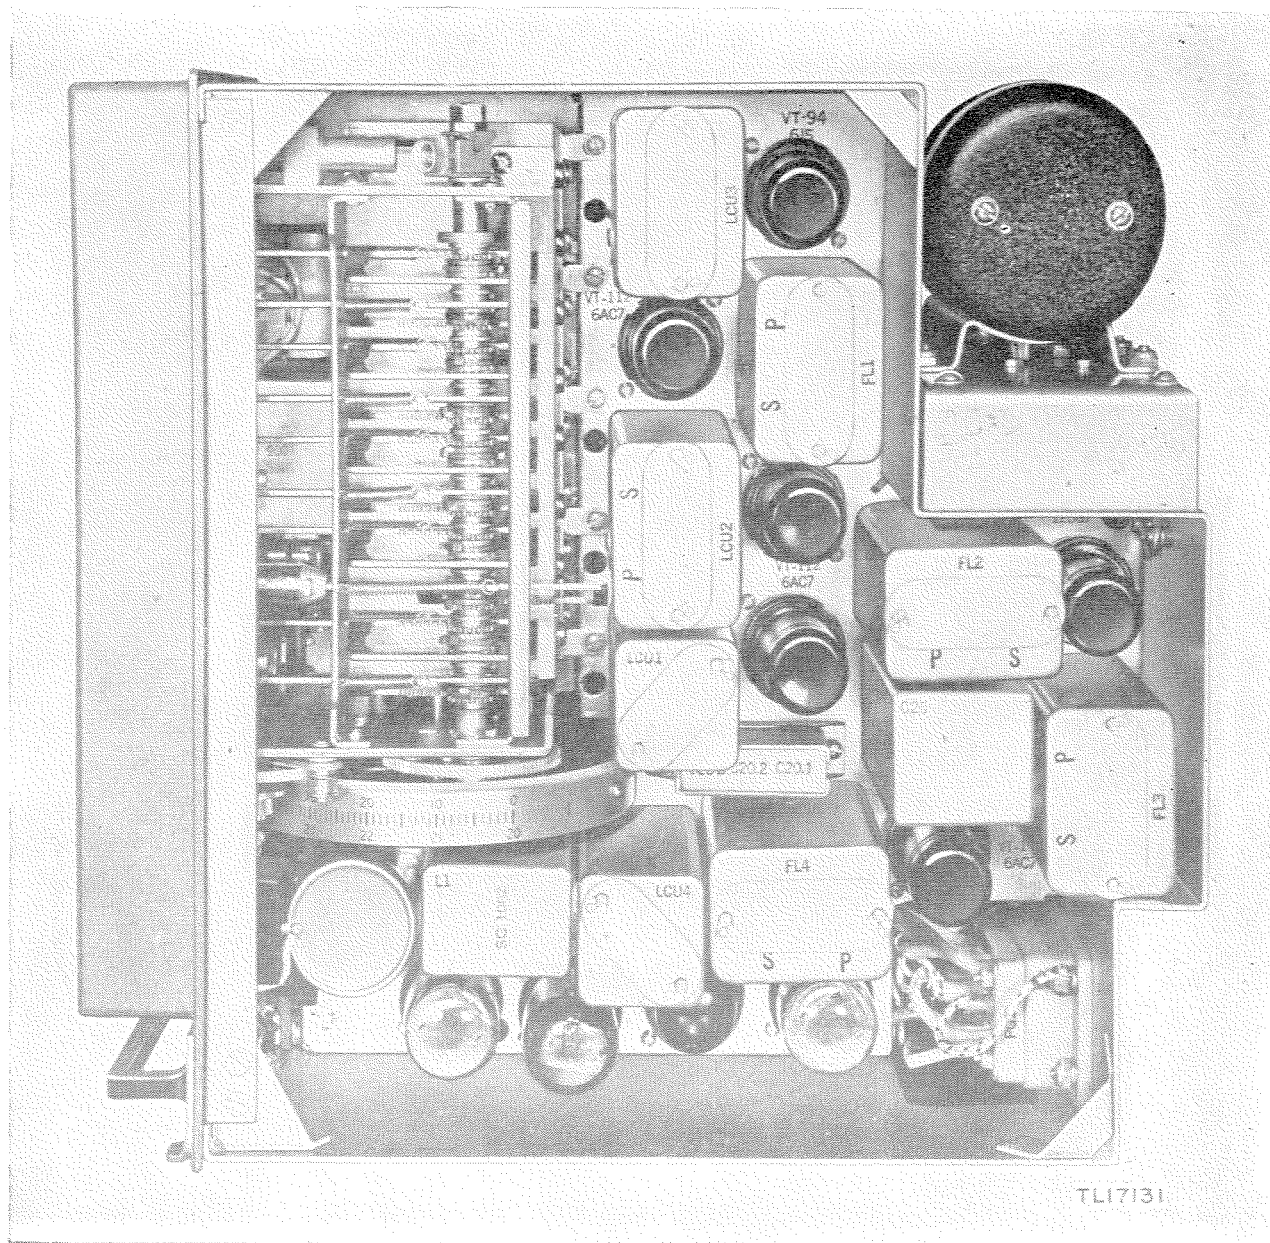

Figure 5. Radio Receiver BC-603(\*)—right-side interior view.
b. The space around a vacuum tube is often limited. (See figs. 5 and 11.) Therefore, use a tube extractor or with the fingers rock the tube gently while pulling up.
c. VACUUM TUBES. Return the vacuum tubes to their respective sockets. (See figs. 5 and 11.)